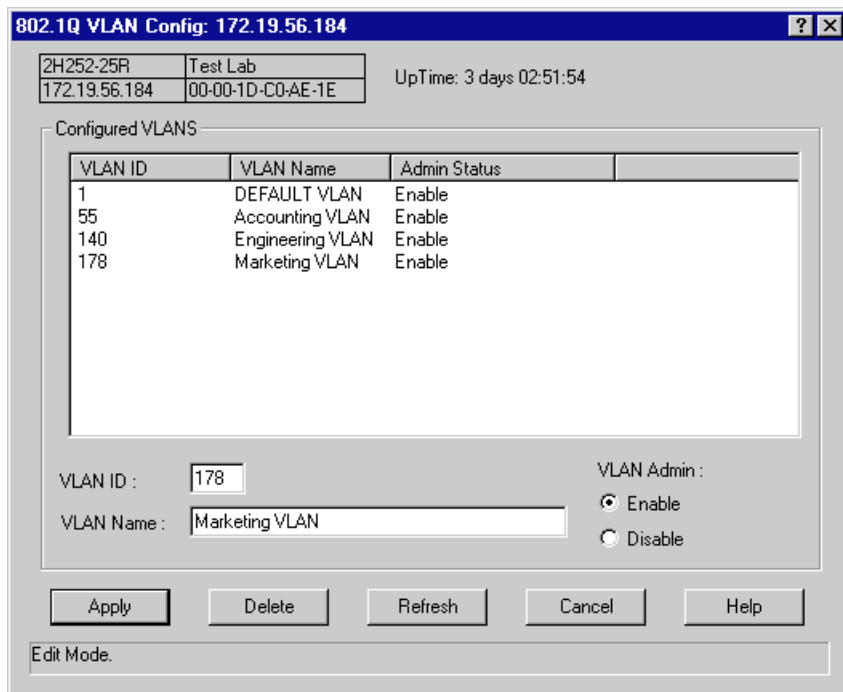

Figure 2-24. The VLAN Config Window
To set up your 802.1Q port-based VLANs using SPECTRUM Element Manager, you must first define the desired VLANs using the VLAN Config window (Figure 2-24), which allows you to assign VLAN IDs and optional VLAN names, and enable or disable VLANs.
2. Click on **802.1Q VLAN**, and then select **802.1Q VLAN Config**. The VLAN Config window, Figure 2-24, will appear.